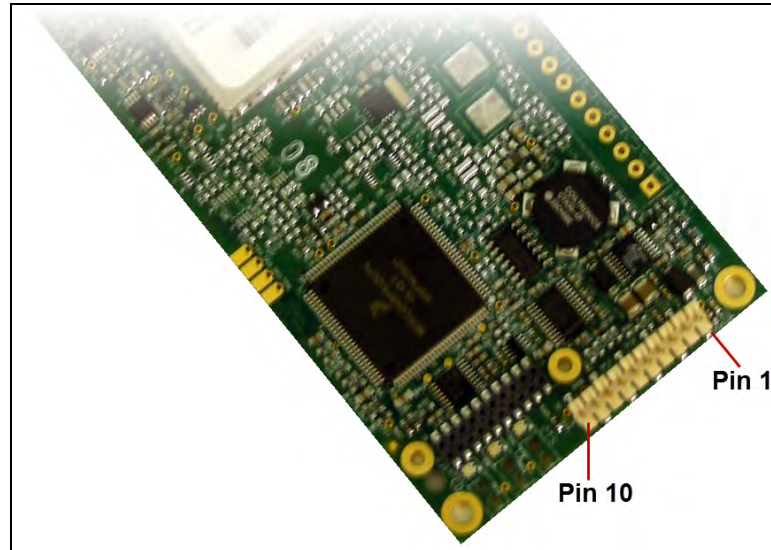

Figure 6: Pins 1 and 10
- Short pins 2 & 4 (Brown to Black) on the white 10 pin header next to the LEDs. Figure 6